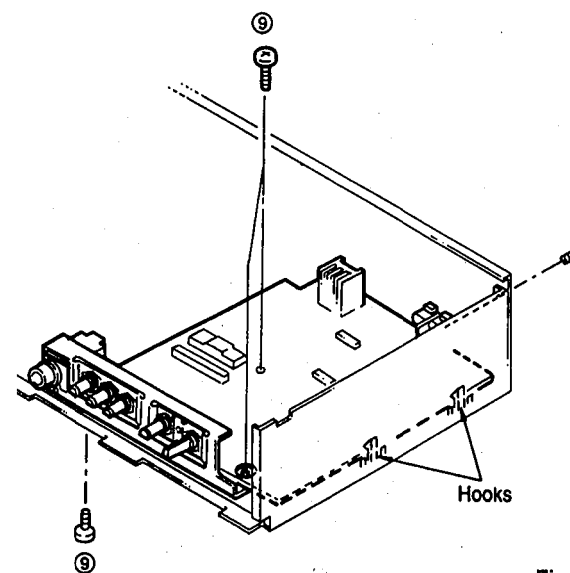

Fig. 9
9. Removal of P.C.B. Main (1)
- Remove 4 screws (⑨) and detach 2 hooks in Fig. 9.